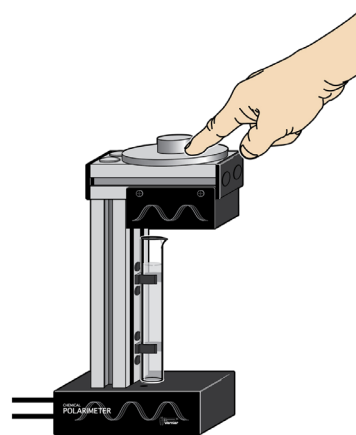

Figure 2 Rotation of the analyzer
c. Start data collection and slowly rotate the analyzer clockwise or counterclockwise as shown in Figure 2 until data collection stops (15 s). Slowly rotating the analyzer produces smoother curves. **Note:** If you are using a LabPro interface, only rotate the analyzer while data collection is active. Allow a few seconds at both the beginning and ending of data collection without moving the analyzer.